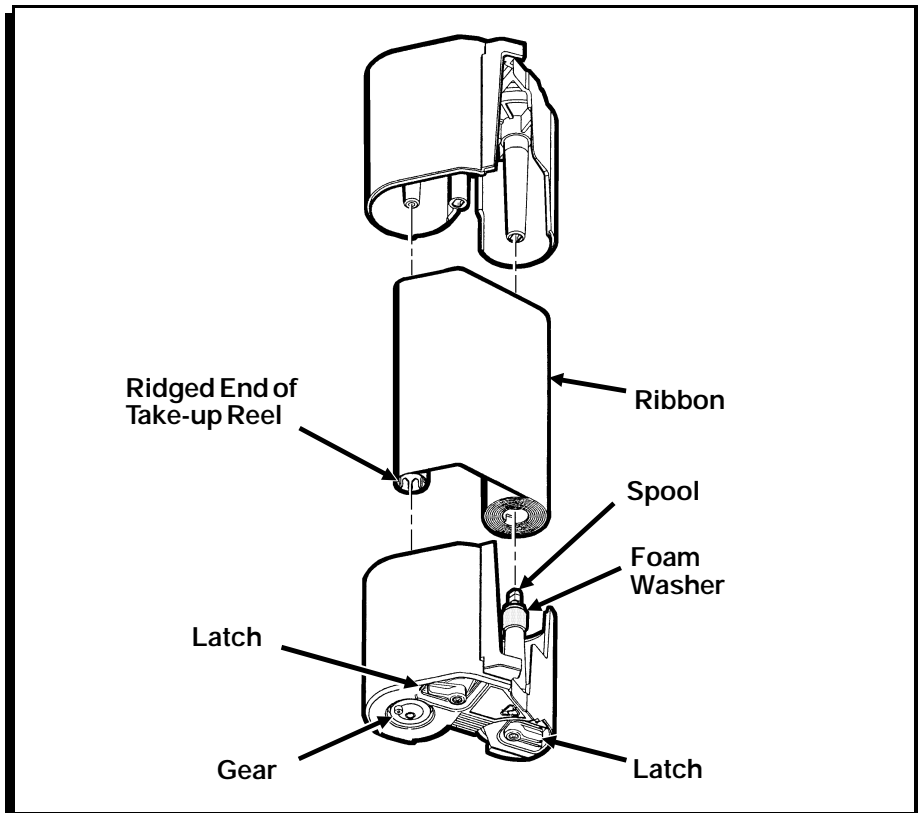

Figure 36
3. Lift off the half of the cassette without the latches and set it aside. (Figure 36.)